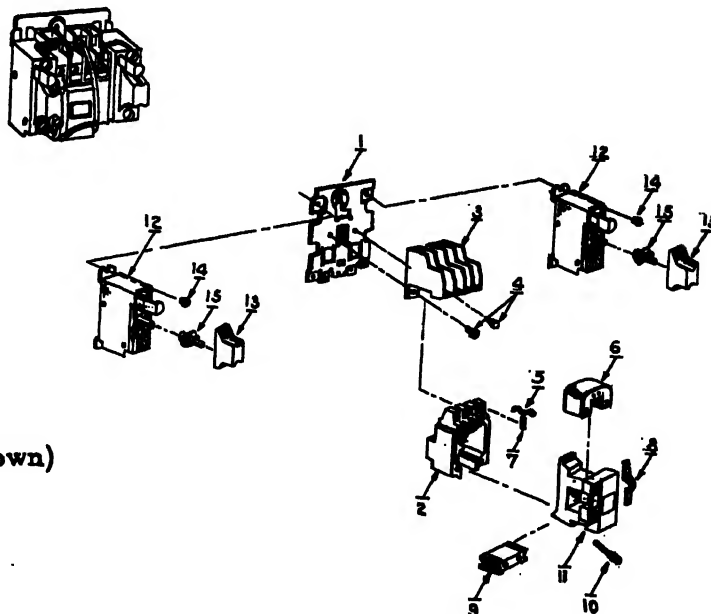

FIGURE 53. BLOWER STARTER ASSEMBLY AND DISASSEMBLY
Legend for Fig. 53.
2. Refer to Fig. 53 and disassemble the blower motor starter.
1. Refer to Fig. 53 and reassemble the blower motor starter.